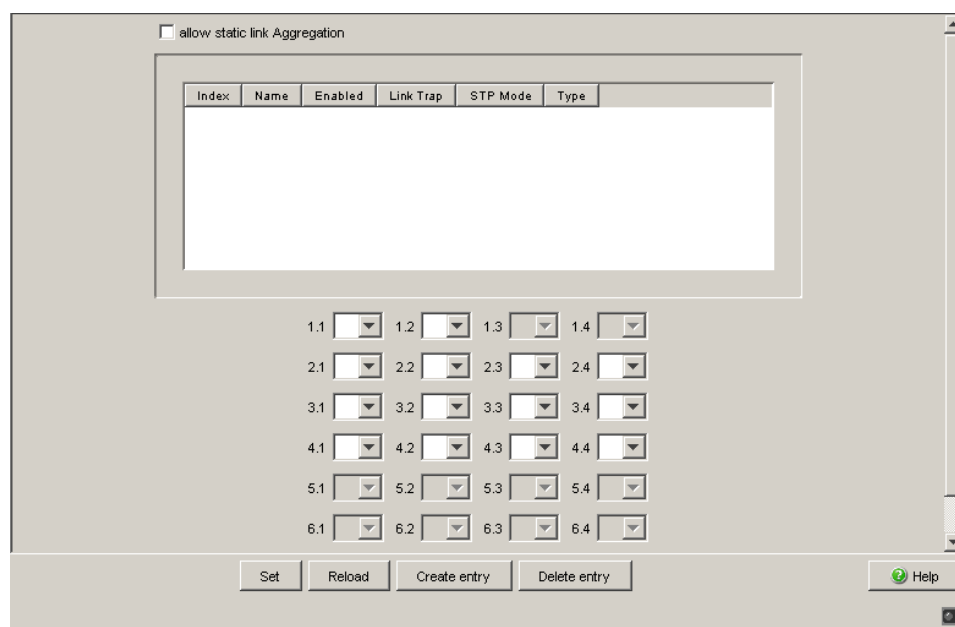

Figure 3: Creating the link aggregation
- Select the Redundancy:Link Aggregation (see fig. 3) dialog.